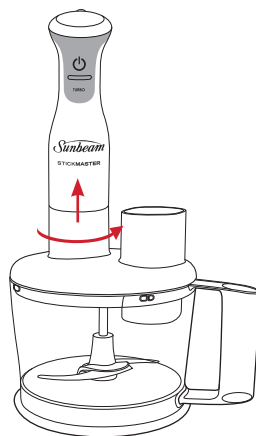

Figure 2
6. To detach the motor body, twist the shaft in an anti clockwise position until the motor body unscrews from the processing bowl. See Figure 2.